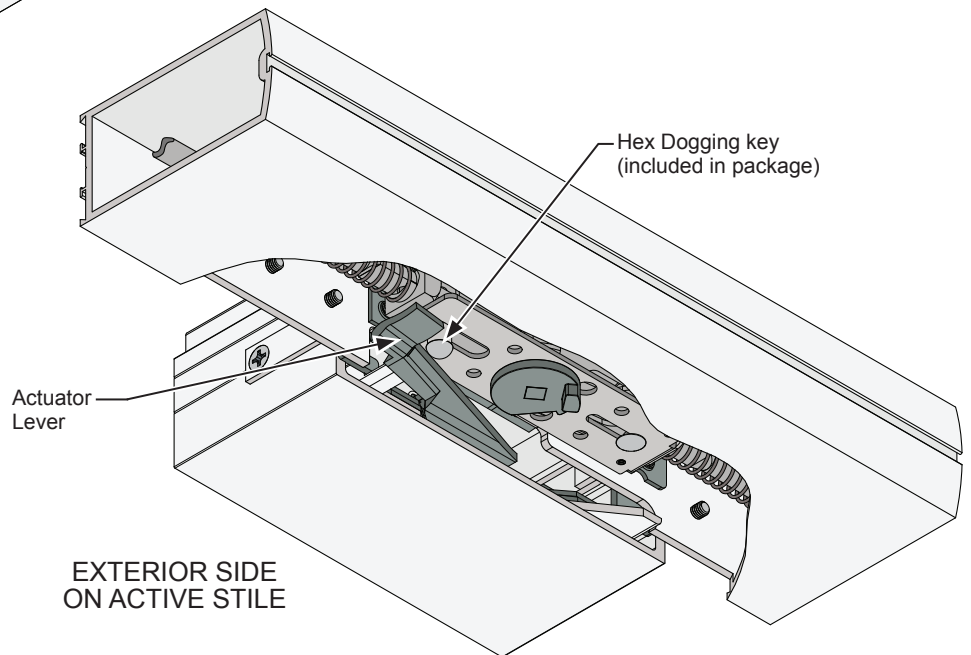

FIG. 18
2. Make sure the actuator lever is positioned below the lift pin on the rod and case assembly. To achieve full engagement, slightly lift the push bar while sliding it into the final position. (Fig. 18)